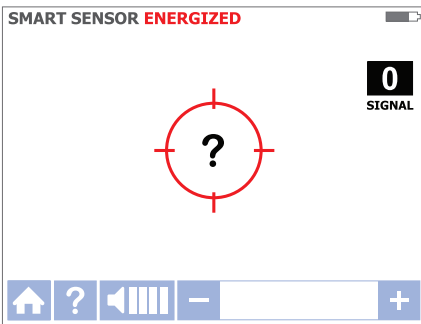

Figure 3.1c
3. Hold the receiver with the Smart Sensor on the rear of the unit facing the target area. If the screen flashes a "?" in a red target then no signal is detected. Move the Smart Sensor closer to the target area until the signal is detected and you see a directional arrow. If no signal is detected increase the sensitivity using the "+" button on the receiver. (see Figure 3.1c)*